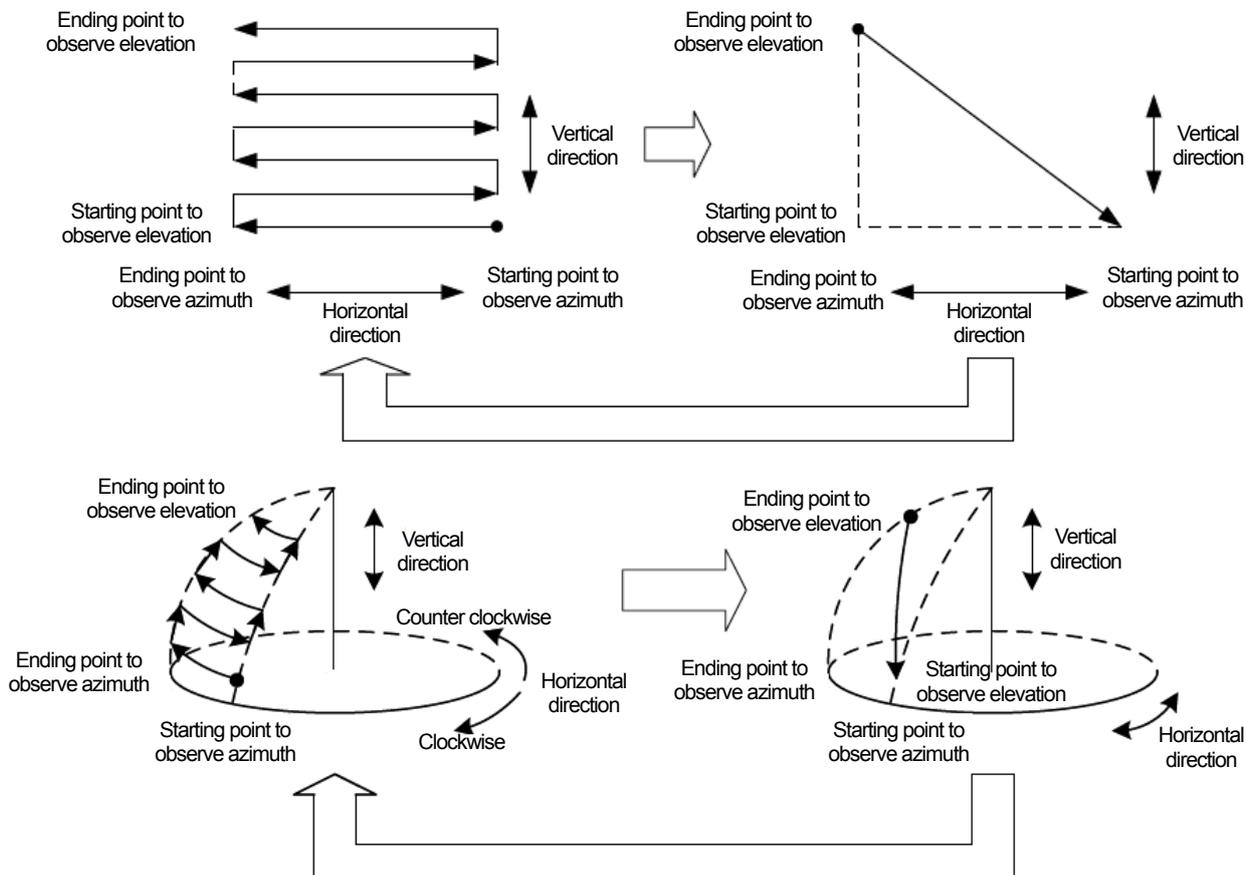

Figure 2.8: SPPI Scan mode
**Sector PPI scan** (Refer to Figure 2.8)